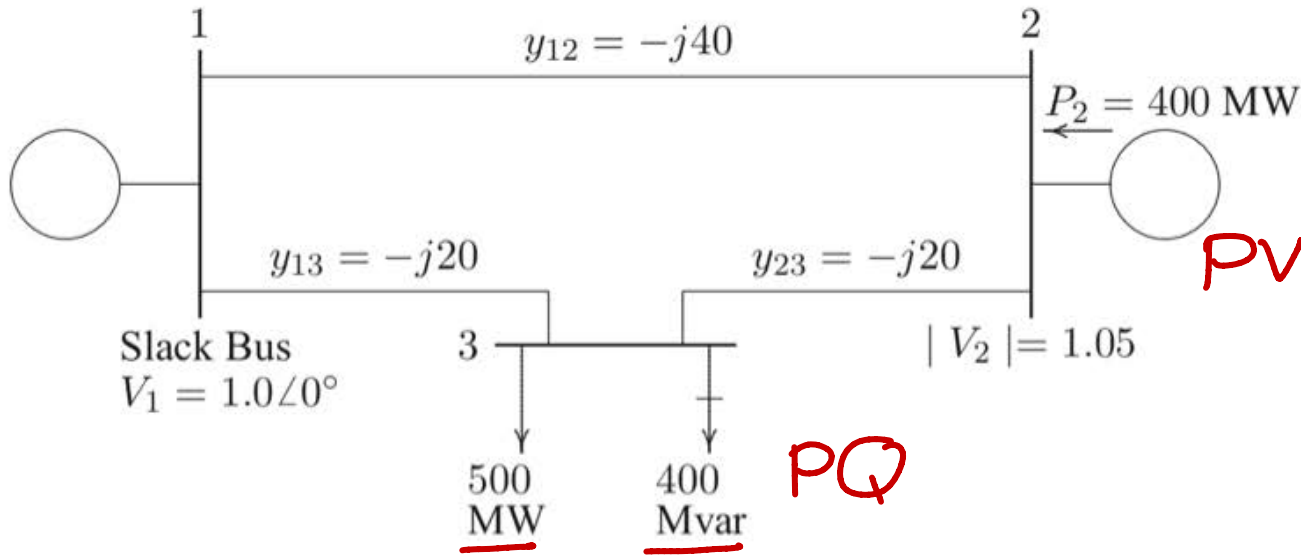

FIGURE 60
6.12. Figure 60 shows the one-line diagram of a simple three-bus power system with generation at buses 1 and 2. The voltage at bus 1 is $V = 1.0 \angle 0^\circ$ per unit. Voltage magnitude at bus 2 is fixed at 1.05 pu with a real power generation of 400 MW. A load consisting of 500 MW and 400 Mvar is taken from bus 3. Line admittances are marked in per unit on a 100 MVA base. For the purpose of hand calculations, line resistances and line charging susceptances are neglected.